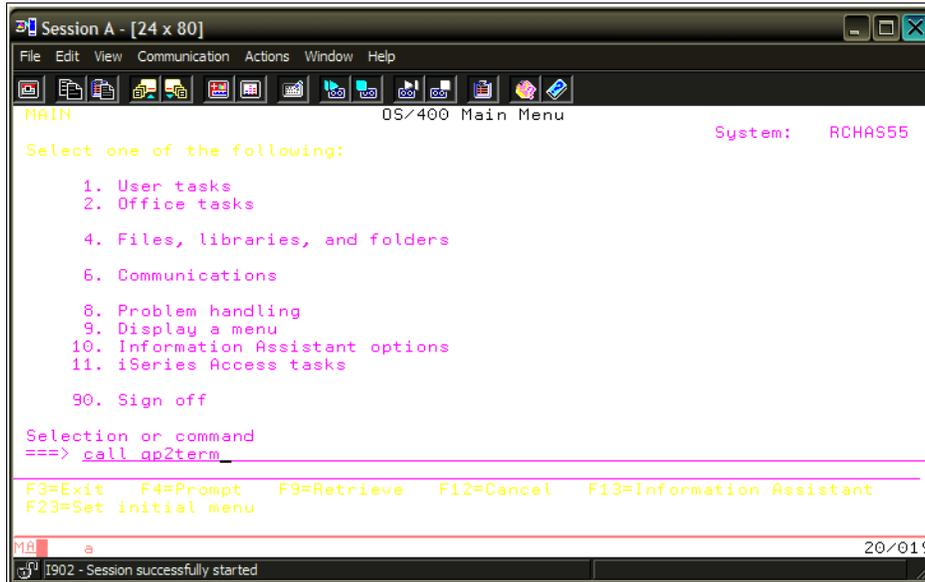

Figure 11-8 Qp2term
- ▶ Logon as *fred* from the i5/OS and run the command `call qp2term` (Figure 11-8).